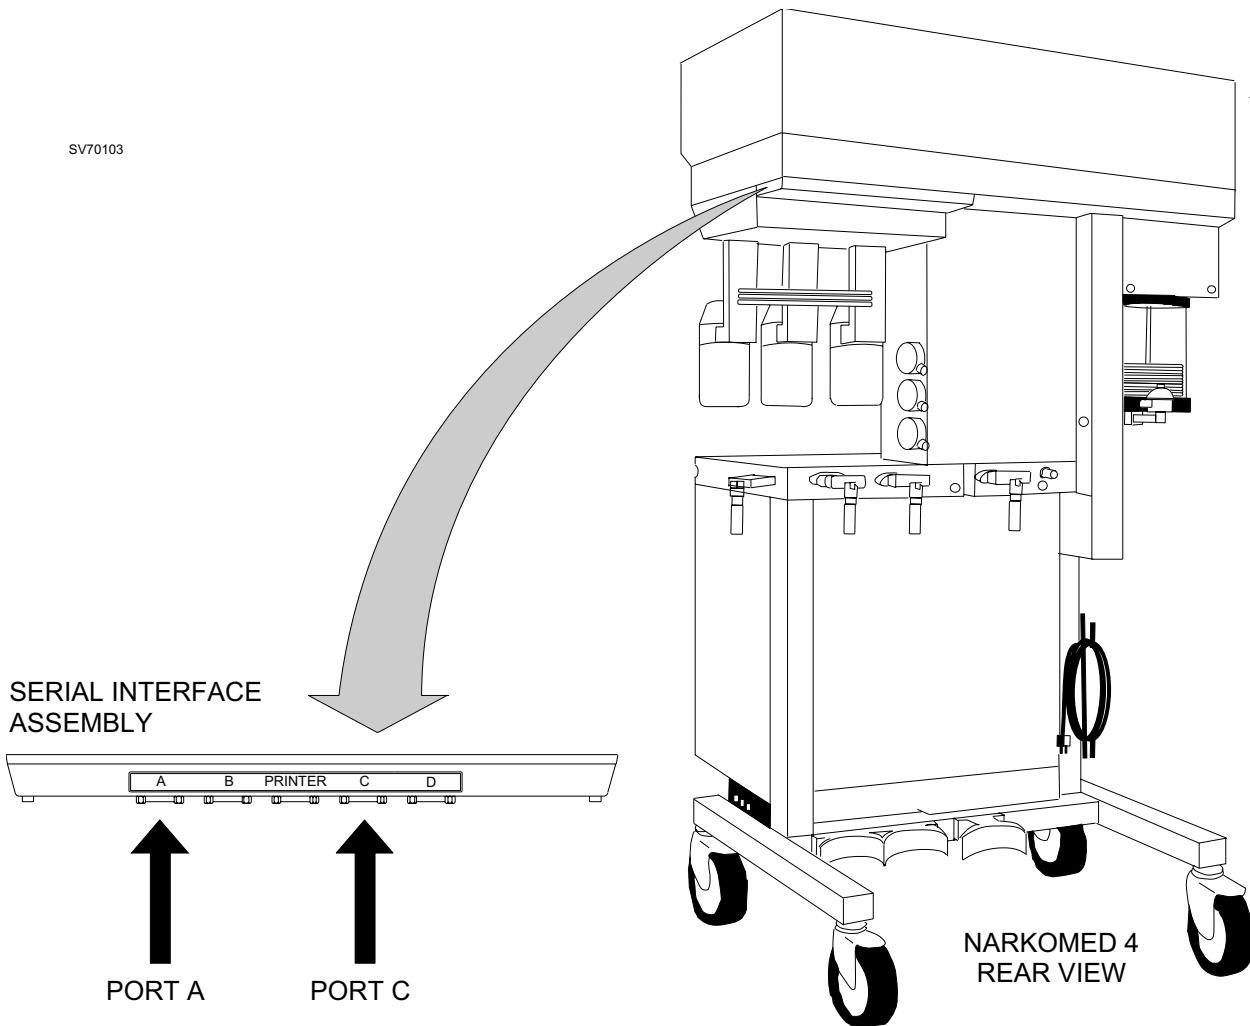

Figure 7-1: NARKOMED 4 EXTERNAL SOFTWARE LOAD INTERFACE CONNECTION
- 7.2.2 Connect the appropriate interface cable (9-pin or 25-pin) to COM 1 on the PC, and connect the other end of the cable to the NM4 serial interface Port A or Port C as shown in Figure 7-1.
- 7.4.2 Connect a 30 in. long Vitalink cable (P/N 4110328) to COM 1 on the PC, and connect the other end of the cable to Port A or Port C on the Narkomed 4 serial port interface (ref. Figure 7-1).